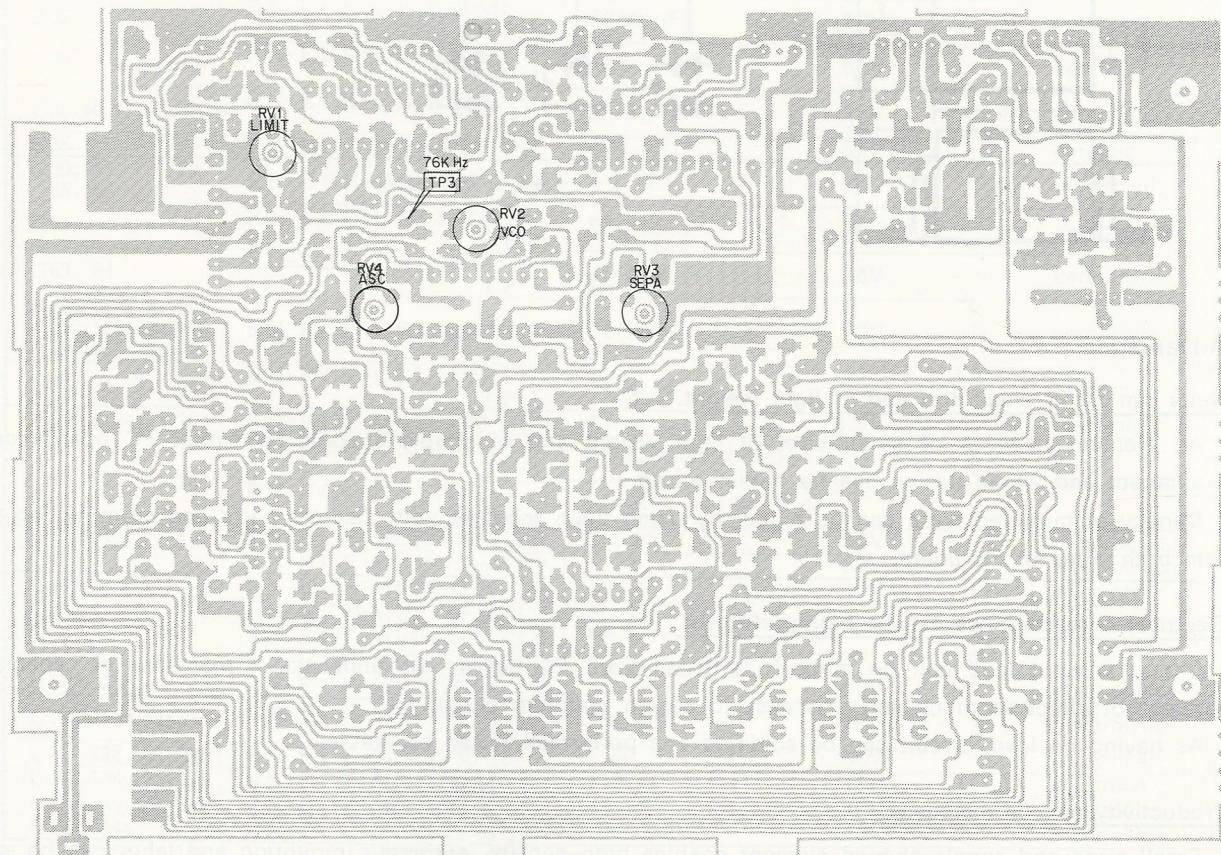

Fig. 22 (C33156530)
(1) Alignment (Refer to Fig. 22 for ADJUSTMENT POINTS.)
Connect frequency counter to **TP 3** as per Fig. 22 and adjust RV2 so that the counter frequency becomes 19 kHz \pm 100 Hz.